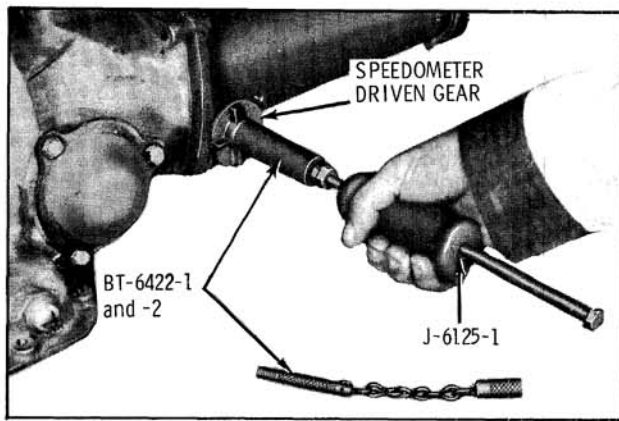

Fig. 6-366 Removing Speedometer Driven Gear
2. Remove speedometer driven gear sleeve. If speedometer driven gear sleeve cannot be removed by hand, available Tool BT-6422 may be used as shown in Fig. 6-366.